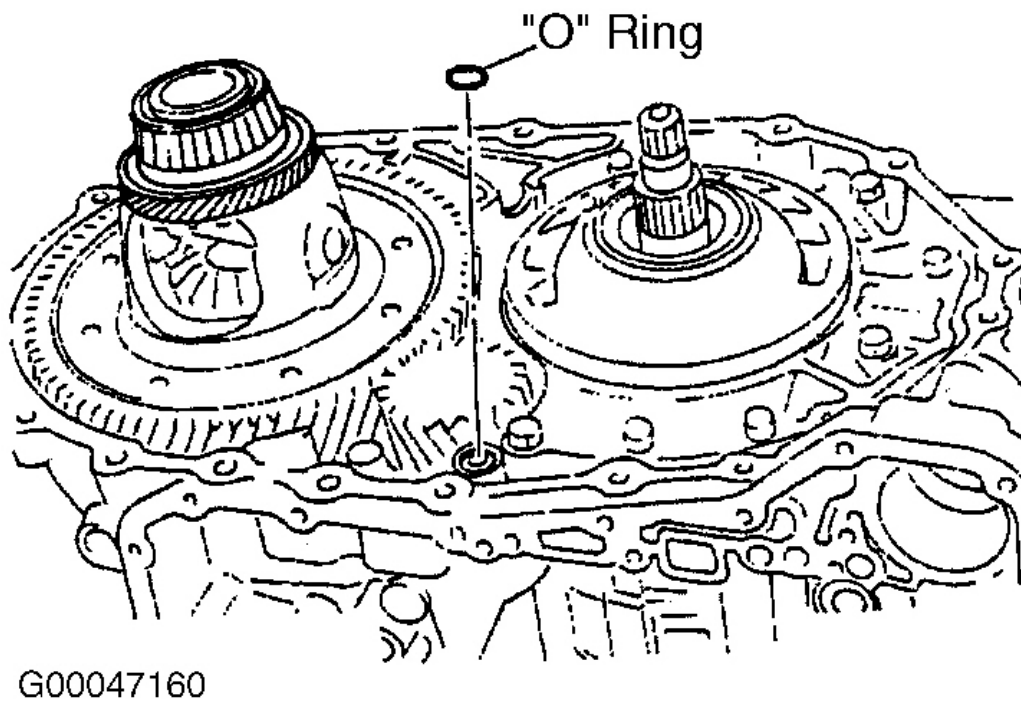

Fig. 10: Locating Differential Oil Port "O" Ring
4. Remove (4) lip seals from transaxle case. See **Fig. 9**. Remove low and reverse oil tube and sleeve. Remove converter housing bolts. Remove converter housing by tapping housing with soft hammer. Remove "O" ring from differential oil port. See **Fig. 10**.